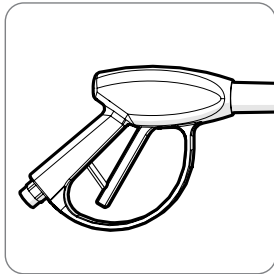

Fig. 6
- Check that the trigger switch on the jet lance is in the locked position. **(Fig. 6)**